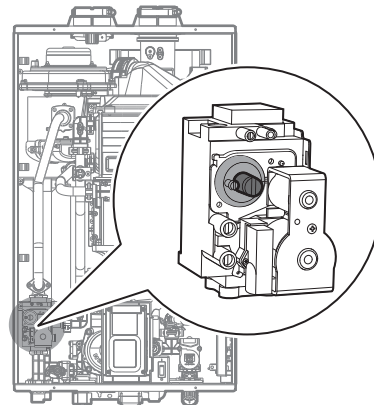

Figure 8. Set Screw Location
- Fully open several hot water fixtures and set the water heater to operate at 1-stage MIN mode (refer to page 64). Measure the CO2 value at low fire. If the CO2 value is not within 0.5% of the value listed in Table 2, the gas valve set screw will need to be adjusted. If adjustment is necessary, locate the set screw as shown in Figure 8. Using a  $\frac{5}{32}$  in or 4 mm Allen wrench, turn the set screw no more than  $\frac{1}{4}$  turn clockwise to raise or counterclockwise to lower the CO2 value.